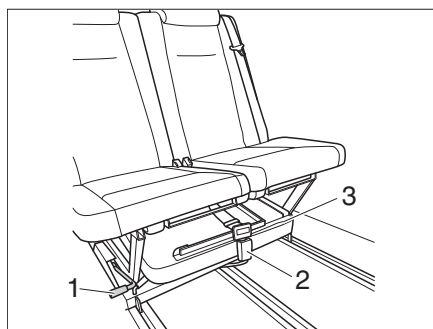

Fig. 3 Moving the seat bench
- Open the belt buckle (Fig. 3,2) and remove the (Fig. 3,3) bed extension.
- Pull the positioning lever (Fig. 3,1) and push the bench seat forward.